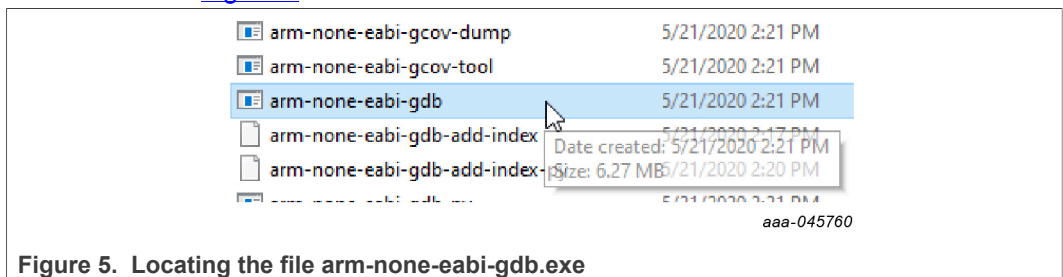

Figure 5. Locating the file arm-none-eabi-gdb.exe
2. Locate the file named 'arm-none-eabi-gdb.exe' by navigating to <path-to-installation-folder>/GNU Arm Embedded Toolchain/9 2020-q2-update/bin folder as shown in Figure 5.